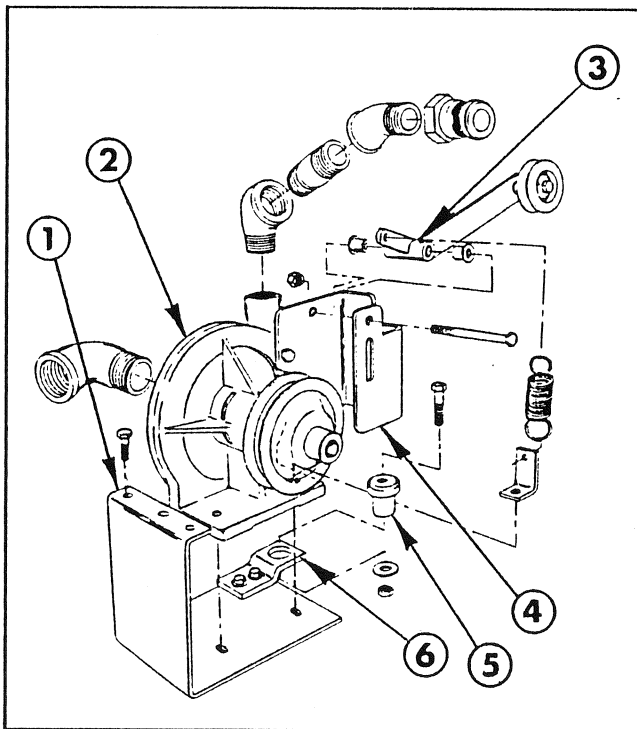
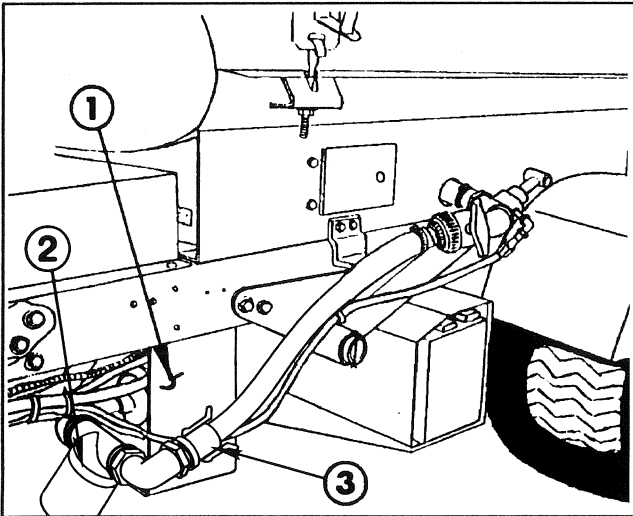

FIG. 1
FIG. 3
2. Install the square key into the centrifugal pump shaft key slot. Place the pump pulley on the pump shaft and secure to the shaft using the 5/16" x 3/4" hex hd. cap screw, 5/16 I.D. 10 GA. flat washer, and lockwasher (FIG. 1).
3. Attach the idler pivot bracket to the pump by removing the two pump housing bolts and replace with (2) 3/8" x 1" hex hd cap screws. See FIG. 1.
4. Install one flange bushing into each end of the idler pivot assembly mounting hole and attach to the idler bracket using the 3/8" x 3" hex hd cap screw and locknut (FIG. 1).
the tension spring to the short arm of the idler pivot assembly (FIG. 1).
6. Apply sealer and install the 90 degree x 1-1/4" street elbow into the suction port of the pump. Apply sealer and install the 1" x 3" nipple, (2) 45 degree x 1" elbows, and quick adapter into the discharge port of the pump (FIG. 1).
7. Install the rubber mount into the tab mount and loose fit the tab mount to the pump mounting bracket using the (2) 3/8" x 1" hex hd cap screws, flat washers, and locknuts (FIG. 1).
8. Attach the pump mount bracket assembly to the left side of the vehicle frame using the (3) 5/16" x 1" hex hd cap screws, lockwashers, and hex nuts (FIG. 3). Next, attach the tab mount to the crossmember using the 3/8" x 1-1/2" hex hd cap screw, 3/8 I.D. 10 GA. flat washer, and locknut. See FIG. 1. Tighten all fasteners securely.
10. Mount the pump and the spring tab to the pump mount bracket using the (2) 3/8" x 1-1/2" hex hd. cap screws, flat washers, and locknuts. Attach the spring to the spring tab located at the base of the pump (FIG. 1).
11. Apply thread sealer and install the 1-1/4" close nipple, suction strainer, 90° st. elbow, reducing nipple, and quick adapter into the suction side of the pump (FIG. 3).